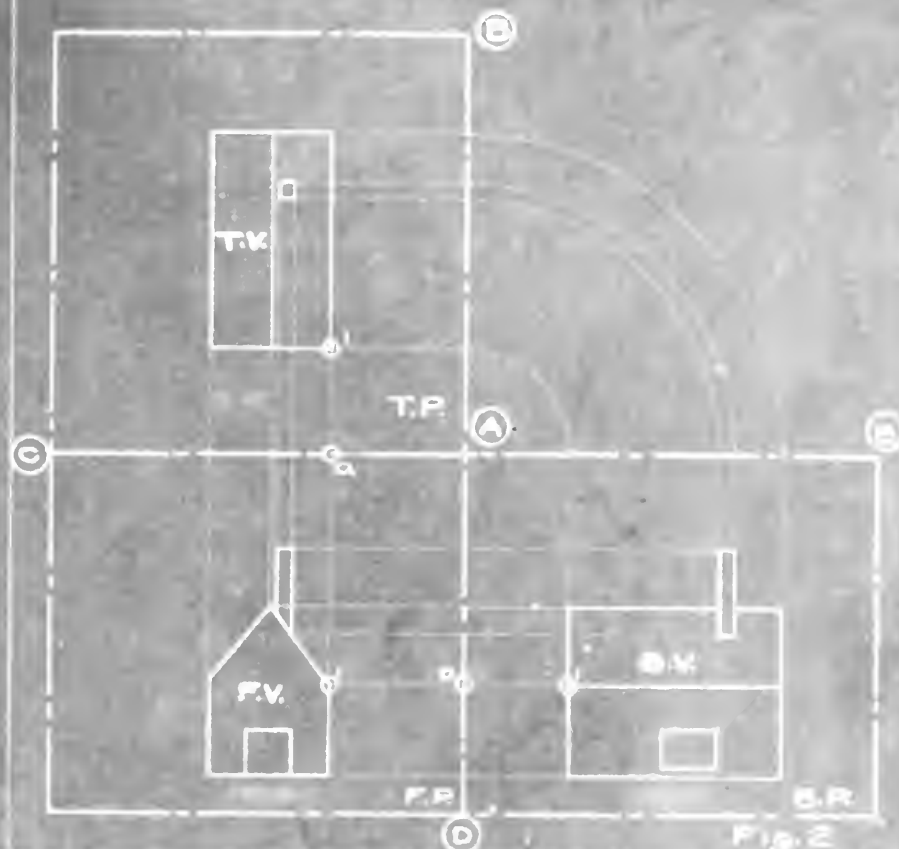

Fig. 2
5. Consider the Planes of Projection to be separated along **AB**. Turn T.P. on AC and S.P. on AD and spread all three planes out flat. The resulting location of the views will be as in Fig. 2.